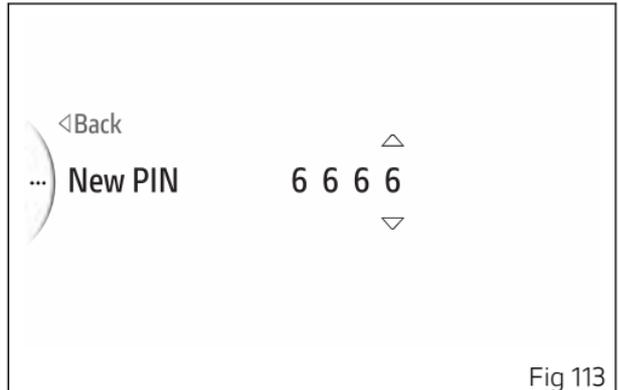

Fig 113
- The 2 arrows above and below the digit indicate that the number can be changed from 0 to 9 using buttons (1) and (2).
- Press ENTER (3) to confirm and move on to the following digit.
- Repeat the procedure until entering all 4 digits (Fig 113).
- Press ENTER (3) to confirm the digit and move on to the following one.